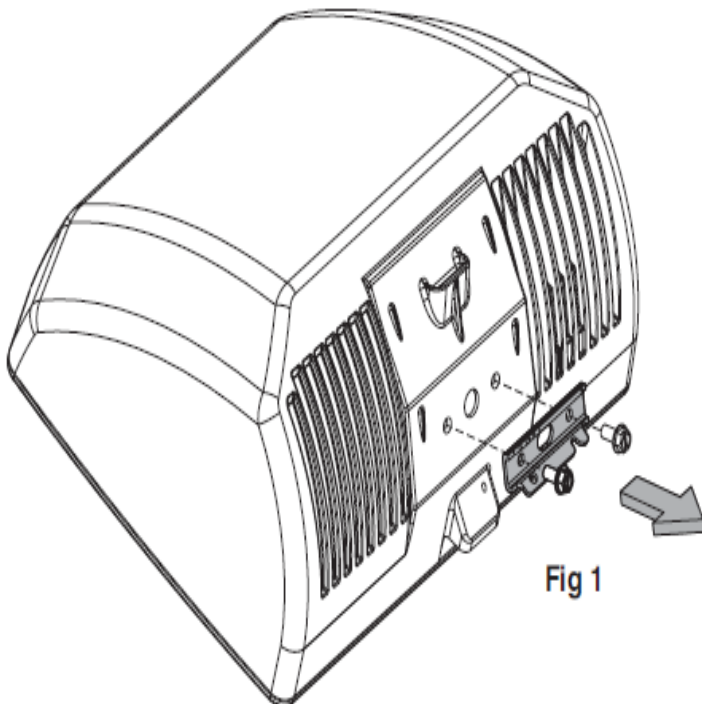

Fig 1
- 1 Remove and discard bolts and mounting bracket from the rear of the housing. (Fig 1)